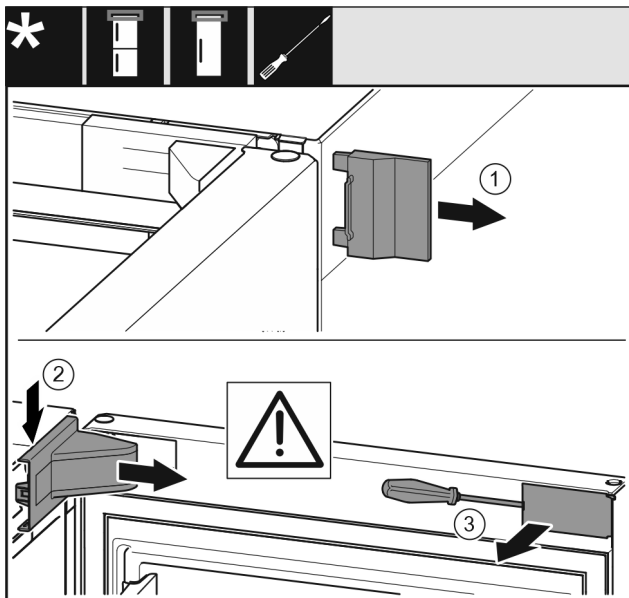

Fig. 8
- ▶ Remove the outer cover Fig. 8 (1).
- ▶ Disengage and remove the swap bearing block cover Fig. 8 (2).
- ▶ Use a slotted screwdriver to unlatch the trim Fig. 8 (3) and swing it to the side.